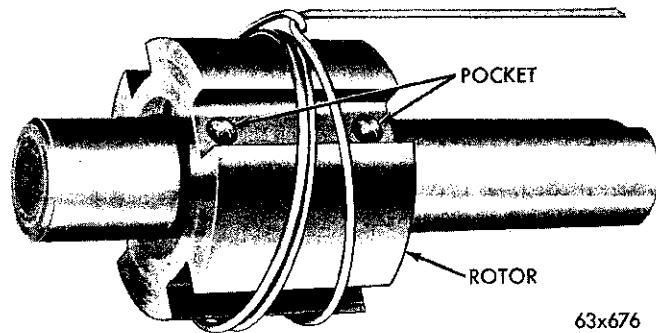

Fig. 14—Slipper Retainer Wire Retainer Tool Installed on Rotor
(11) Using a piece of soft steel wire 25 inches long, make three turns around the center of the rotor and fasten the wire as shown in Figure 14. Bend the ends of the wire towards the pulley end of shaft. Do not make the wire coils too tight or the wire will be difficult to remove.